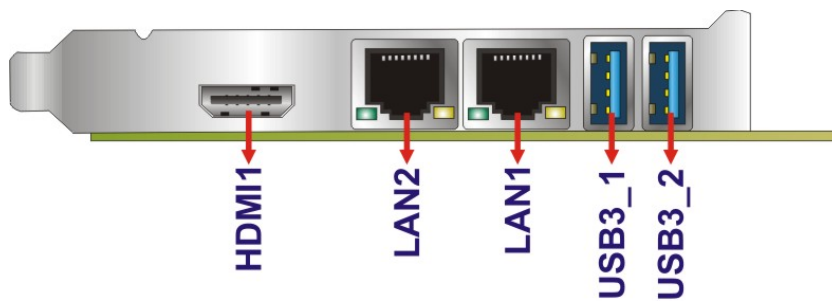

Figure 3-28: External Peripheral Interface Connector
- CN Location:** See **Figure 3-28**
CN Location: See **Figure 3-28**
| CN Location: | See Figure 3-28 |